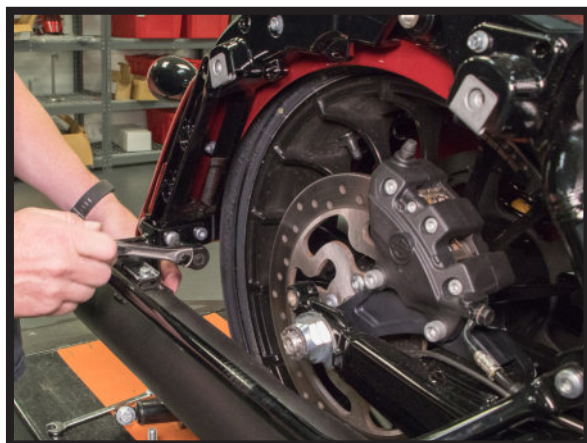

FIGURE 6
3. IF THE MOTORCYCLE IS A MODEL YEAR 2009-2013 GO TO STEP #6. FOR A MODEL YEAR 2014-PRESENT REMOVE THE TWO BOLTS AT THE REAR OF THE RIGHT SADDLE BAG SUPPORT. YOU WILL NEED TO REUSE THE LARGER BOLT AND NUT ON THE FAR RIGHT OF THE MOTORCYCLE. LOCATE THE INCLUDED 5/16 BOLT & LOCK NUT. (FIGURES 6, 7, 8)